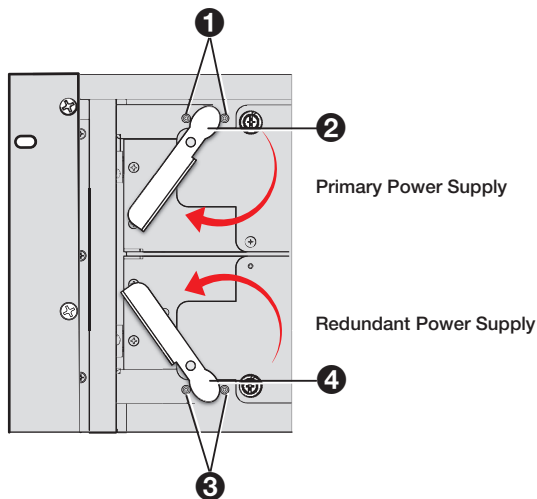

Figure 4. Positioning the Lever between the Two Pegs on the Chassis
8. Ensure that the round end of the locking lever on the power supply (see figure 4, ②) is positioned between the two pegs (①), located on the chassis adjacent to the power supply, then rotate the lever to the left until the power supply is locked in place.